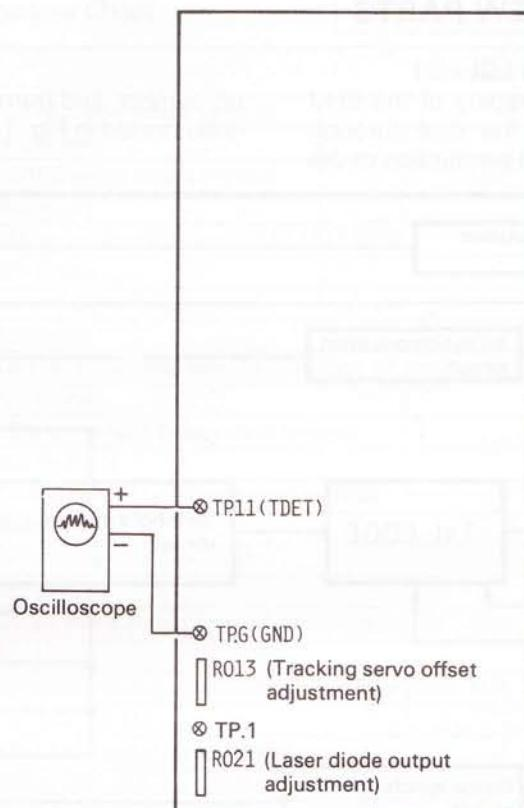

Fig. 17
(2) Adjustment method
- [1] Connect the oscilloscope between TP.11 (TDET) and TP.G (GND) (Fig. 17).